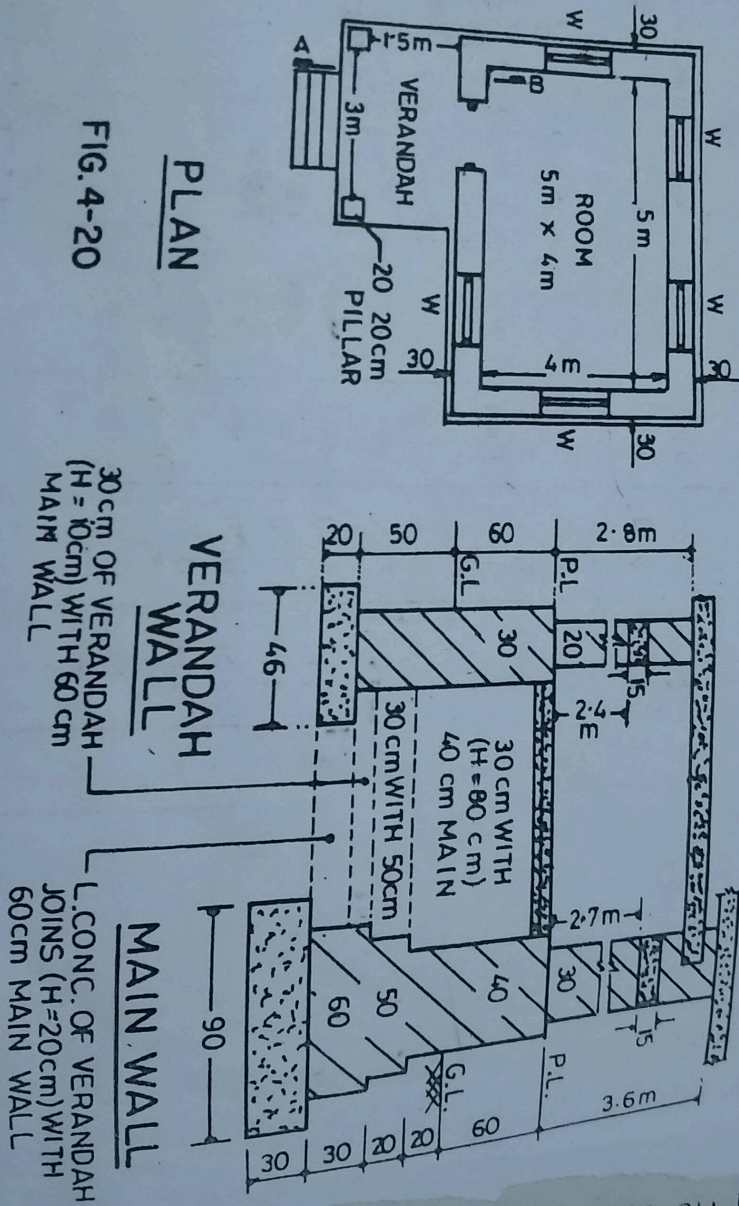

FIG. 4-20
Fig. 4-20 shows the plan and sections of walls for a single roomed building with Verandah. Estimate the quantities of the following items: - (1) Earthwork in excavation in foundation. (2) First class brickwork in cement mortar (1:4) in foundation and plinth. (3) First class brickwork in cement mortar (1:6) in superstructure. Neglect step.